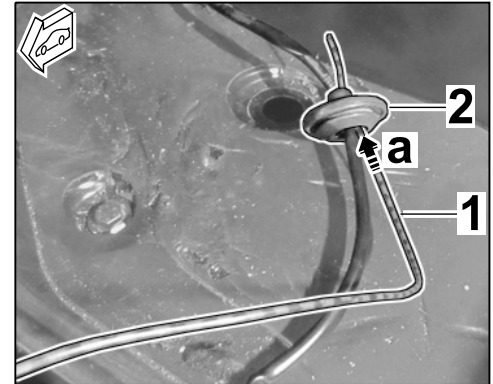

Figure 8
- 3.1.4 Guide power supply line ⇒ *Figure 8-1-* through the rubber sleeve ⇒ *Figure 8-2-* (⇒ *Figure 8-a-*)